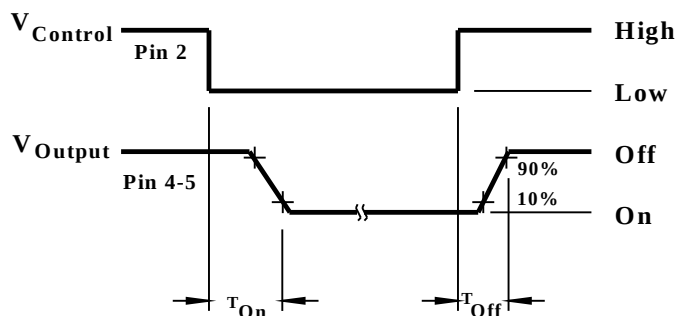

Figure 4
5. To determine the maximum on-resistance at any given junction temperature, multiply on-resistance at 25°C by normalized on-resistance factor from curve (Figure 4).
6. Overload testing per MIL-R-28750 is constrained to the limits imposed by the short circuit protection requirements of this specification and DESC drawing 90091. Load circuit series inductance for "load shorted" mode of operation to be limited to 50 mH max. Maximum repetition rate into a shorted load should not exceed 10Hz. To calculate maximum on-resistance at any temperature, use following equation : $R(on) = R(on) @ 25^{\circ}C \times NF$ (without short circuit protection) and $R(on) = 0.2 \times NF + .21$ (with short circuit protection) where NF = normalized on-resistance factor from Figure 4.